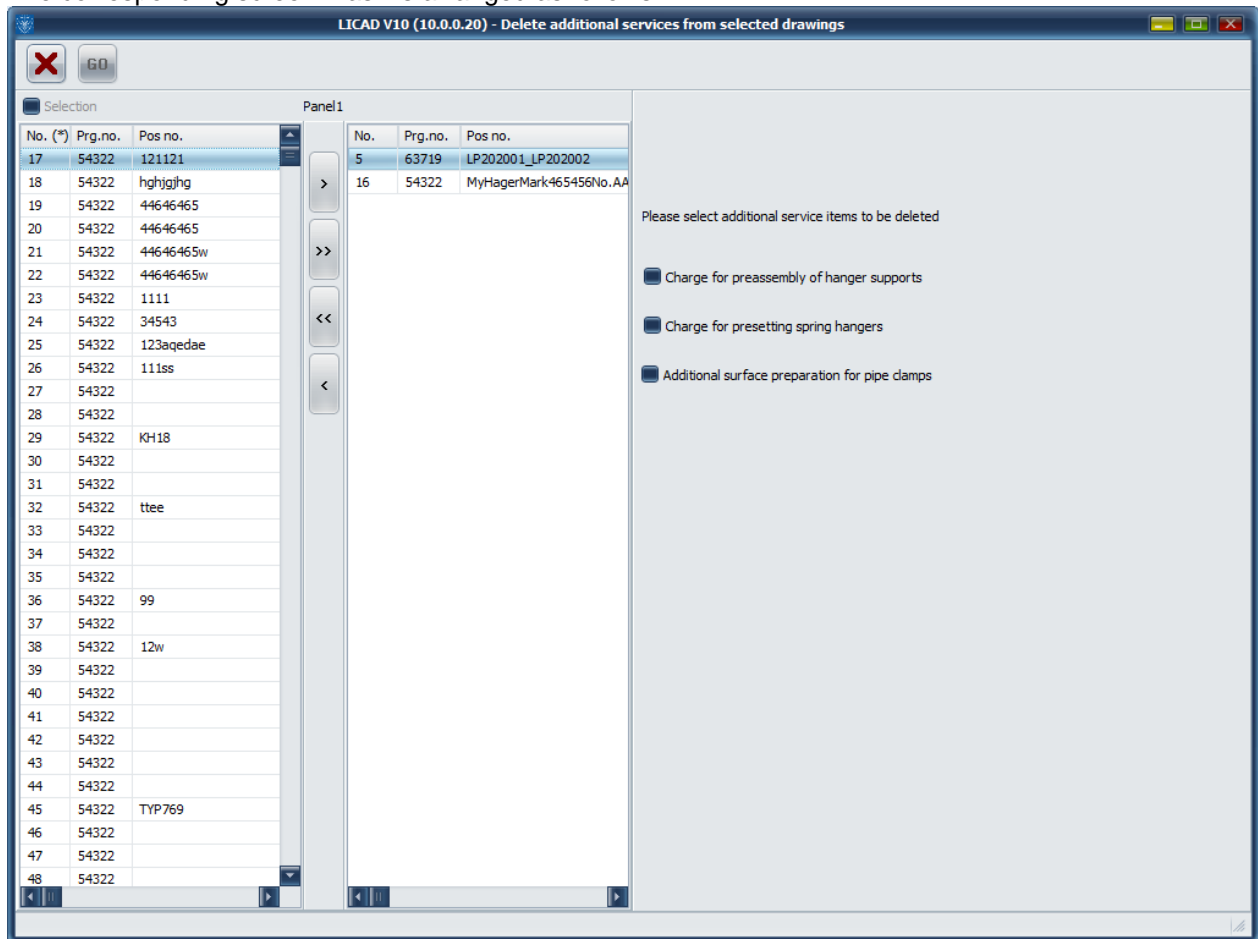

Figure 35: Deleting additional services in stored drawings
The entry screen is structured analogously to Figure 35. Selection is also to be made as described under program item 4.19.